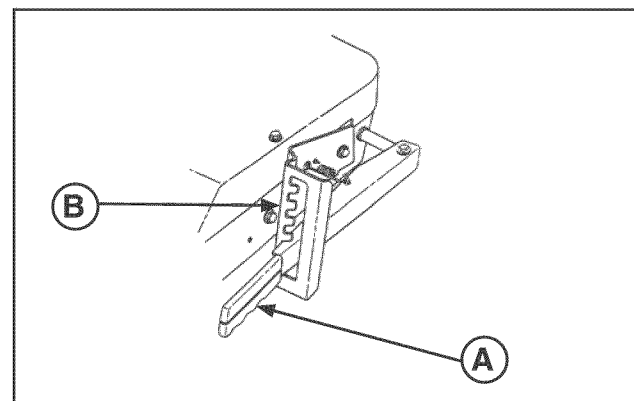

FIGURE 10
1. Adjust the cutting height by raising or lowering the deck lift lever (A, Figure 10) into the desired height of cut notch (B).